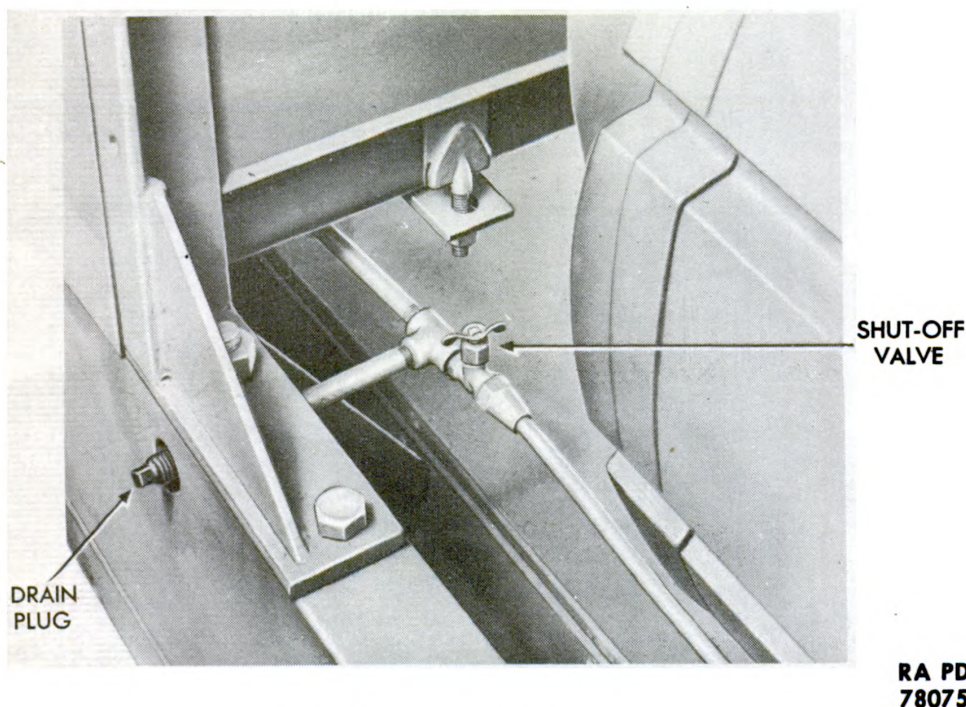

Figure 33 — Fuel Line at Tank
a. Construction. The fuel system consists of the gasoline tank with a flameproof filler cap and screen (fig. 32), and a mechanical, float-type fuel gage (fig. 30), the fuel pump, the carburetor, the air cleaner, the intake section of the manifold, the governor, the throttle body, linkage between governor and throttle body, a $\frac{5}{16}$ -inch fuel line (fig. 33), and a $\frac{1}{4}$ -inch drain line. The drain line consist of a nipple teed off the fuel line at the lower right front corner of the fuel tank. The capacity of the fuel tank is 25 gallons.